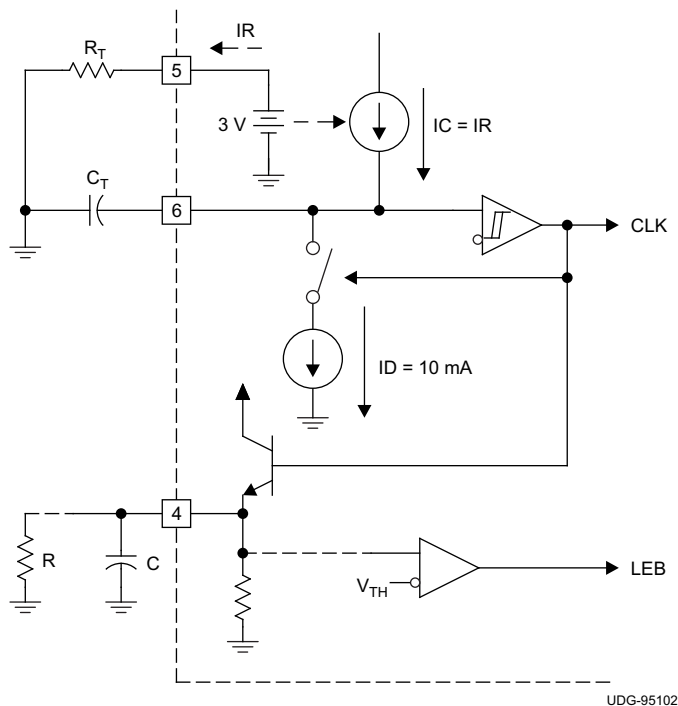
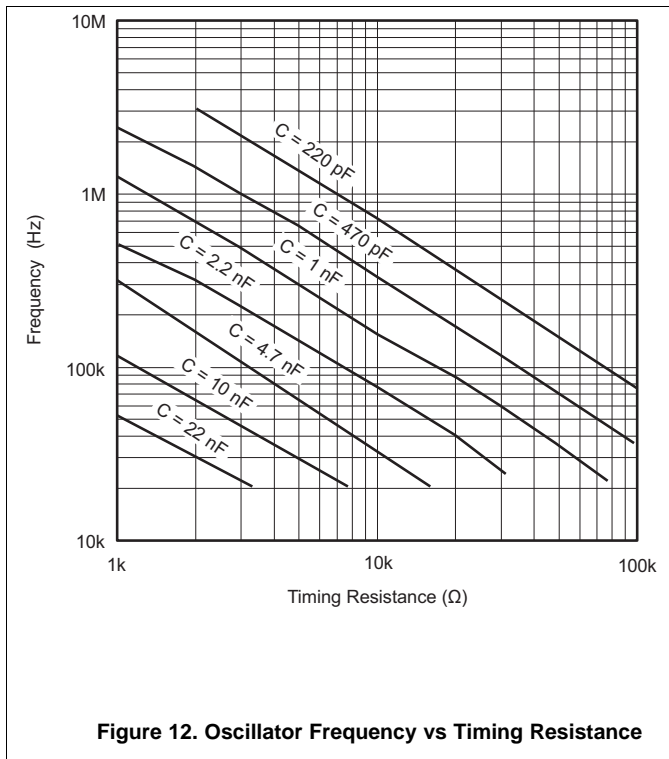
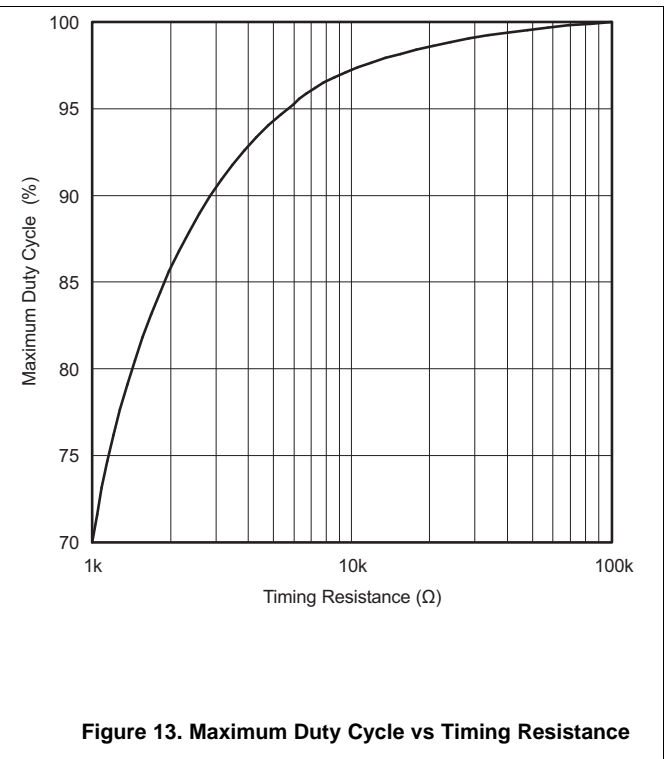

Figure 11. Oscillator
Figure 12. Oscillator Frequency vs Timing Resistance
Figure 13. Maximum Duty Cycle vs Timing Resistance
The oscillator of the UC1825B-SP is a saw tooth (see Figure 11). The rising edge is governed by a current controlled by the RT pin and value of capacitance at the CT pin ( $C_{CT}$ ). The falling edge of the sawtooth sets dead time for the outputs. Selection of RT must be done first, based on desired maximum duty cycle (see Figure 13). CT can then be chosen based on the desired frequency (RT) and  $D_{MAX}$  (see Figure 12). Equation 1 shows the design equations.